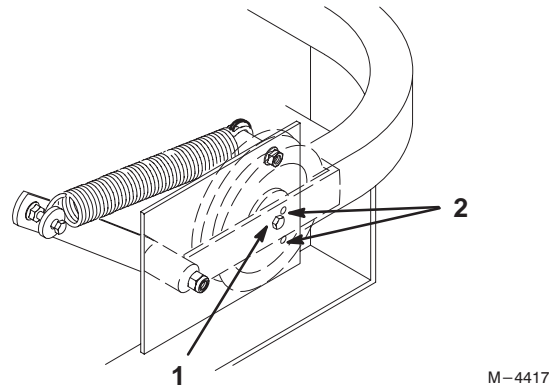

Figure 53
6. Check belt tension. The center bolt of spring loaded idler must be between the two alignment holes in left support plate (Fig 53).
Note: Check position of center bolt in Low Height of Cut. The center bolt must be at or below the top alignment hole. Check position of center bolt in a High Height of Cut. The center bolt must be at or above the lower adjustment hole (Fig 53).
8. Check belt tension again. The center bolt of spring loaded idler must be between the two alignment holes in left support plate (Fig 53). Adjust, if necessary, and tighten all hardware securely.